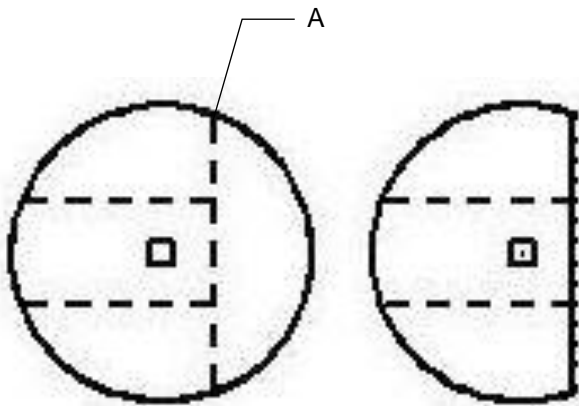

Figure 1
1. Both moisture discs (006-4641H) will need to be cut along the serrated line (A) shown on Figure 1. Only cut on the line shown on Figure 1, do not cut the other line.